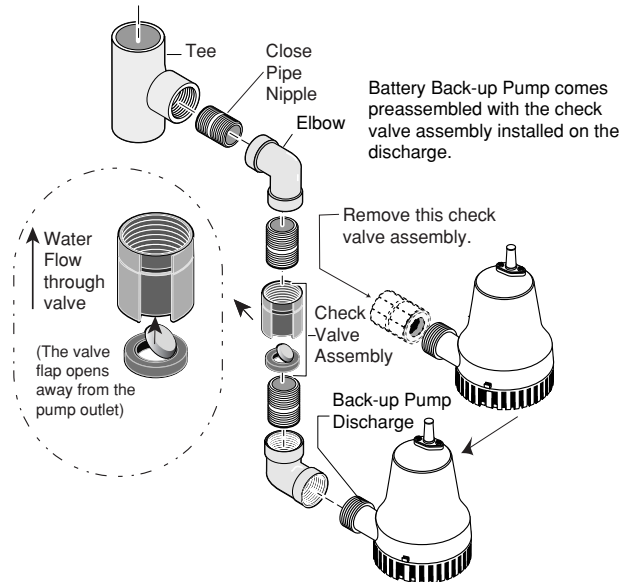

**Figure 2 - Installation diagram – Method A**
The recommended method suggests installing both of the pumps on the floor of the sump pit. See Figure 2. The minimum required sump basin diameter at the bottom of the pit and the recommended depth of the sump basin is 18". Some additional materials you will need are 2 1-1/4" 90° elbows and 2 1-1/4" close pipe nipples.
1. Make the second cut in the discharge pipe at the pencil mark as shown in Figure 1 on Page 4, and in Figure 2, on Page 5. Clean the pipe ends with a cloth towel and set the cut-off piece of discharge pipe aside.